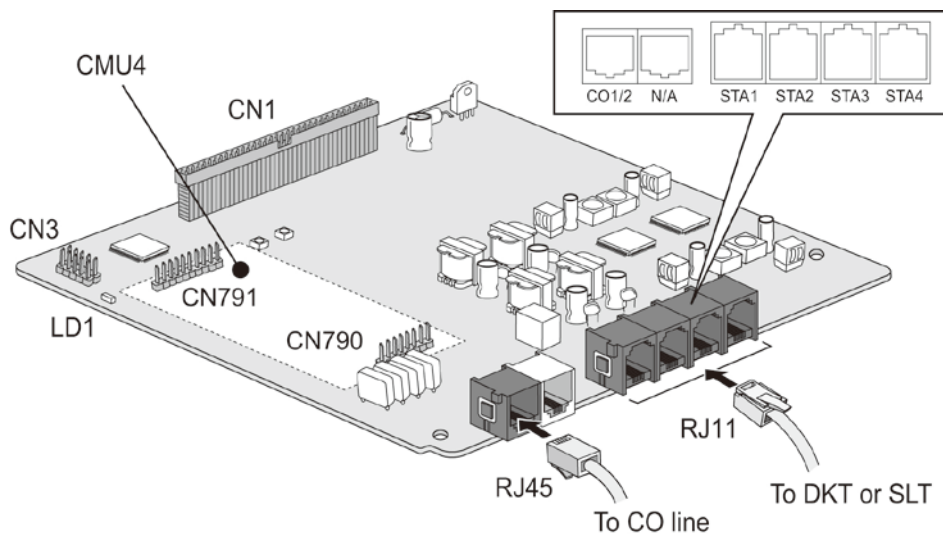

Figure 4.7.1-1 CHB204
The CH204 board has two (2) CO line and four (4) Hybrid (DKT & SLT) interface ports. The board may be installed on the CN1 connector of the KSU or EKSU. The MG-CMU4 daughter board may be mounted on the CH204 to provide Call Metering. The CMU4 is mounted on connectors CN790 and CN791 as shown in Figure 4.7.1-1 below.